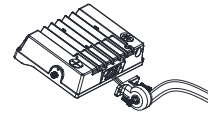

figure 1.1
Step 2: Match the hole of rubber mat with bracket, pass wire through and fix it with screws(Watch out not to scratch the wire);(figure 1.1)